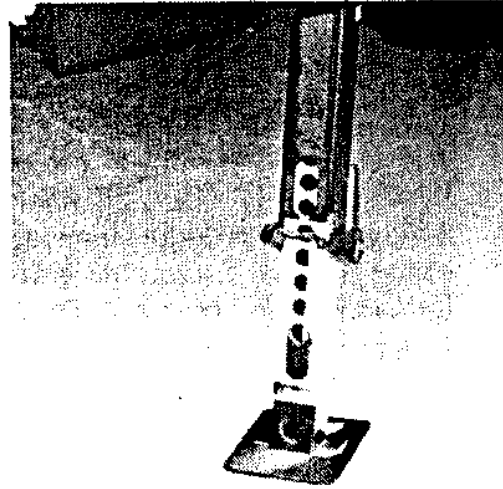

Fig. 4
4. The next step is to release self-storing stabilizer jacks (Fig. 4) and set them as needed. Fold down units have their stabilizer jacks built into the frame. To operate these units which are spring loaded, hold the jack and push to the center of your unit. This will allow the jack to move out of its traveling position and allow it to drop into place. Now extend the jack "foot" by pushing it to the ground. More tension can be placed on the jack feet by using the long jack handle supplied in each unit. Be sure that not too much force is applied to the jack handle; it will cause the holes in the jack legs to expand by breaking out the dividers and cause adjustment problems in the entrance door. One notch should be sufficient. **DO NOT** place excessive weight on these jacks as they are intended to stabilize, not bear the weight of the camper.